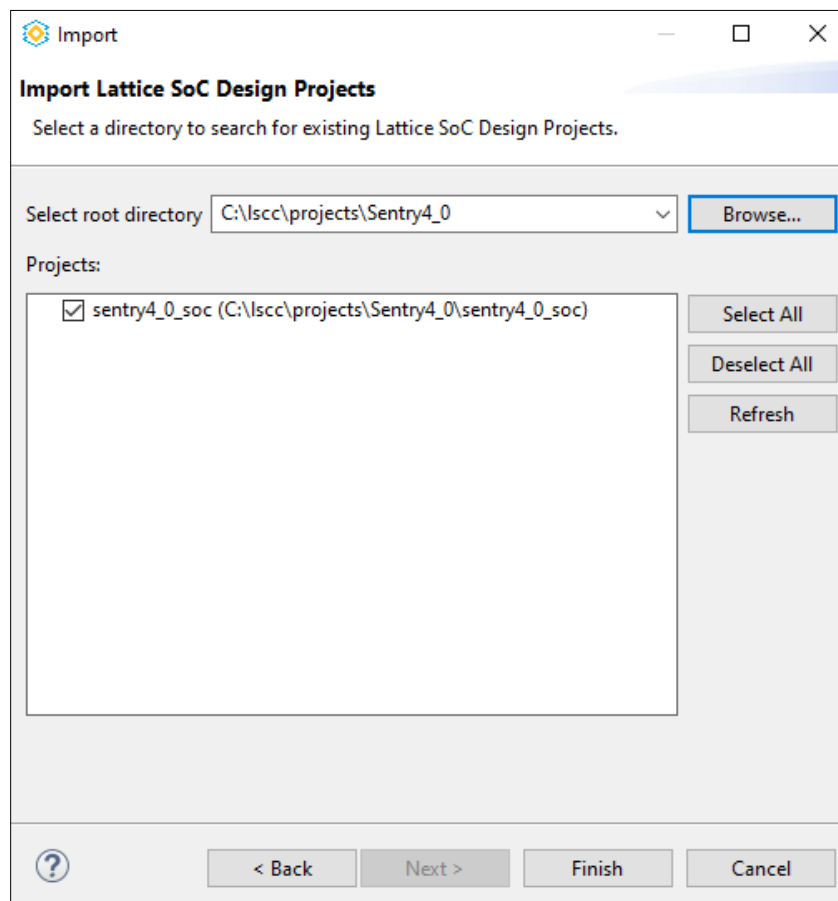

Figure 5.6. Identify Lattice SoC Design Projects
- The Import tool automatically identifies the SoC project (Figure 5.6). If the SoC project does not show up in the list, make sure that the SoC project's outer directory folder ends with the characters `_soc`, and repeat Step 3 to Step 6.